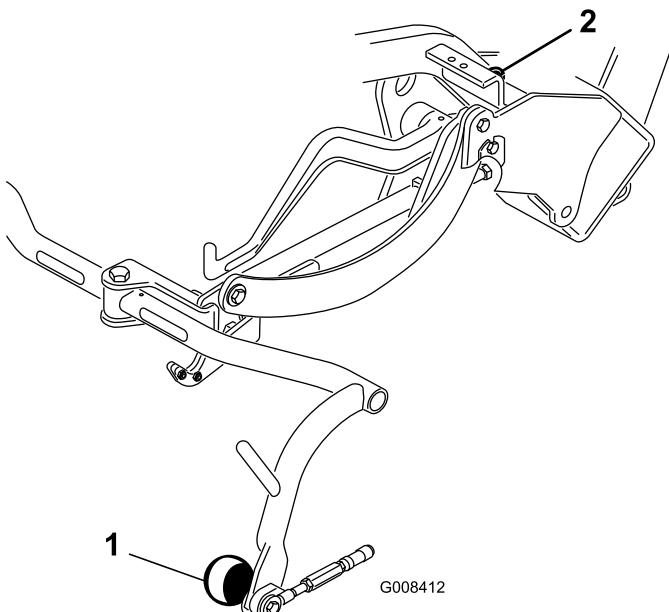

Figure 9
- If an adjustment is required, loosen the jam nut on the carrier frame stop screw (Figure 9) and rotate the screw up or down to raise or lower the carrier frame. Tighten the jam nut after adjustment is attained.